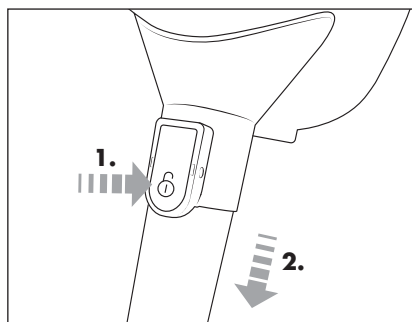

Fig. 6
- ◆ To remove the telescopic suction tube **16** from the appliance, hold the release button **17** pressed. Then pull the telescopic suction tube **16** off the suction opening of the appliance (see Fig. 6).